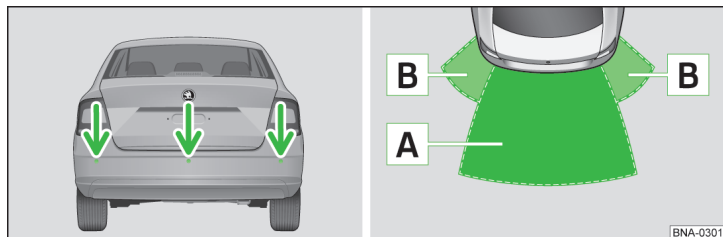

Fig. 69 Fitting the sensors / Range of the sensors
- Keep the system sensors » fig. 69 on page 64 clean, snow- and ice-free and do not cover with any objects of any kind, otherwise the system functioning may be impaired.
The system uses ultrasound waves to calculate the distance between the bumper and an obstacle. The ultrasonic sensors are integrated in the rear bumper » fig. 69.
Area » fig. 69	Range of sensors